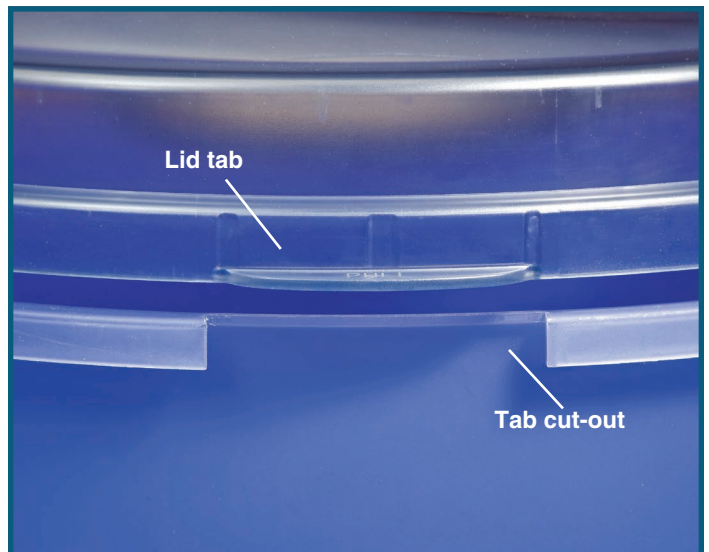

Fig. 5
4. Secure the Separator Lid (1) to canister by aligning the lid tab with any one of the 3 tab cutouts in the Canister's top rim. Rotate clockwise to secure, reverse to remove. **Fig. 5.**